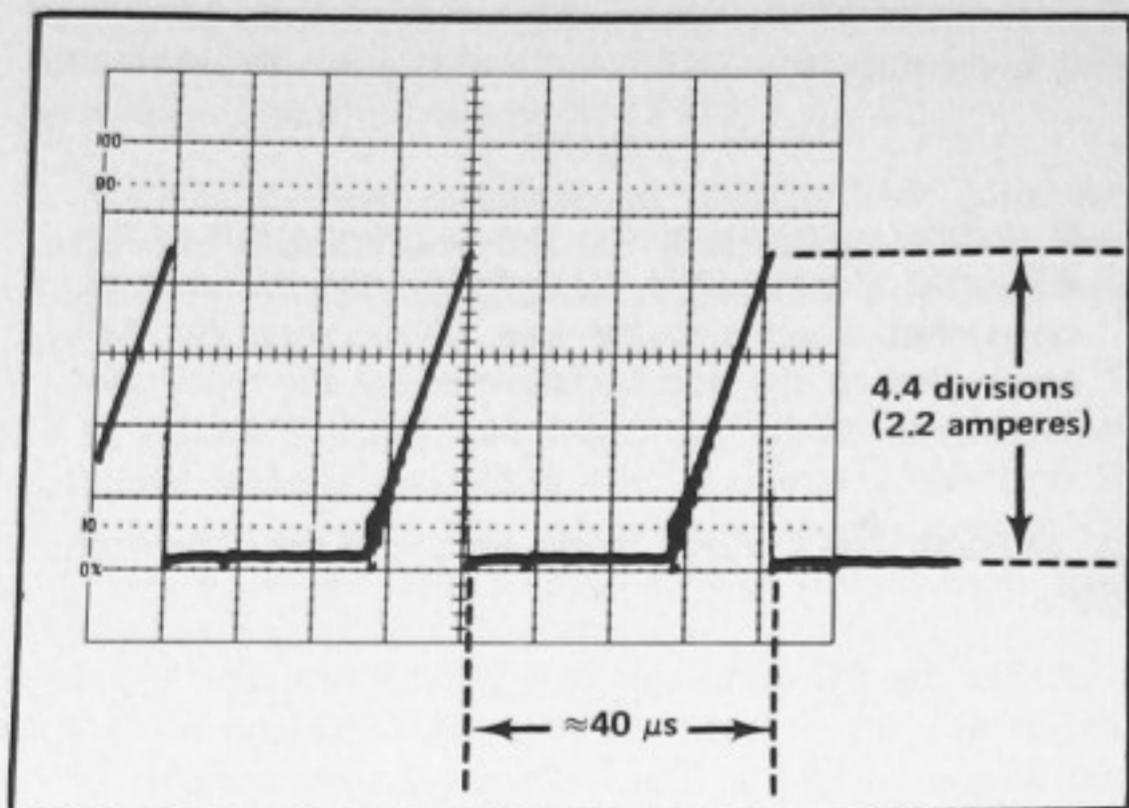

Fig. 5-2. Current waveform in collector circuit of Q1080.
f. CHECK—Test oscilloscope display of 4.8 divisions peak to peak (peak current measurement of 2.4 amperes). See Fig. 5-2. Repetition rate should be approximately 25 kilohertz (40 μ s period).